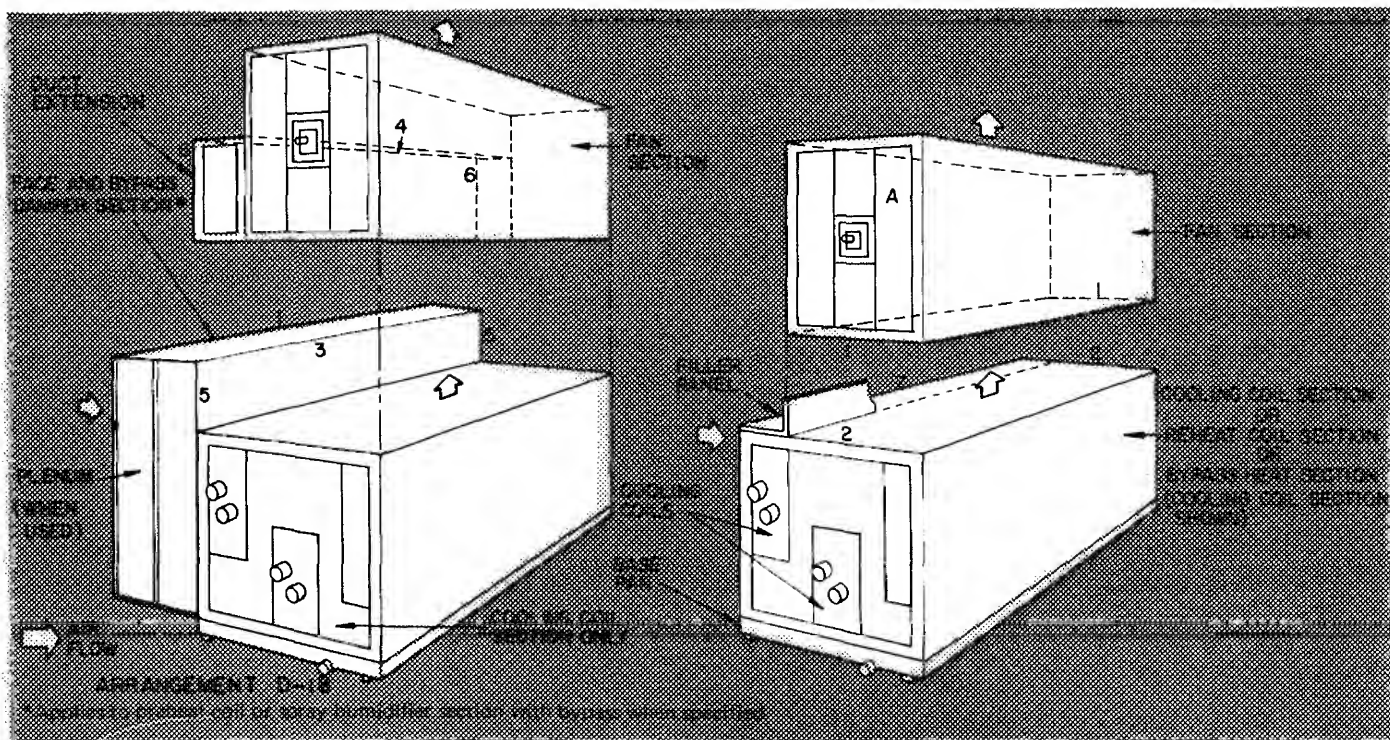

Fig. 5 – Base Unit Assembly for 39BA, BB130-140 and 39BC135, 140 (Arrangement D)
UNITS 39BA,BB SIZES 130 THRU 140 AND 39BC SIZES 135 AND 140 (Arrangement D, except D-18) – Refer to Fig. 5 and Table 3.
- a. Place filler panel, removed from cooling coil section per Accessory Assembly, along flange 7 of accessory section and butt against fan section per Fig. 5.